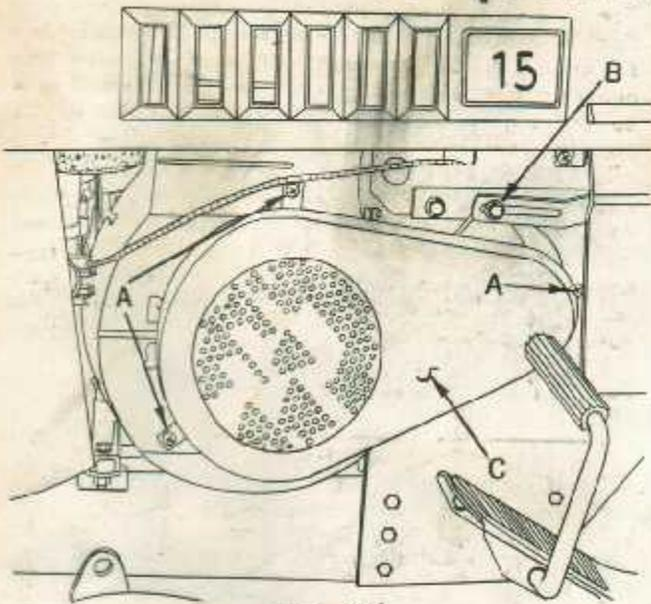

FIG. 28*
- a. Remove the three screws (A, Fig. 28). This will allow removal of belt guard assembly (C, Fig. 28).
- b. Loosen nut (B), and push motor generator forward. This will take tension from V-belt. Remove belt.
- c. Secure a piece of rope and tie a knot in one end. Place this knot into notch (D), in engine pulley.